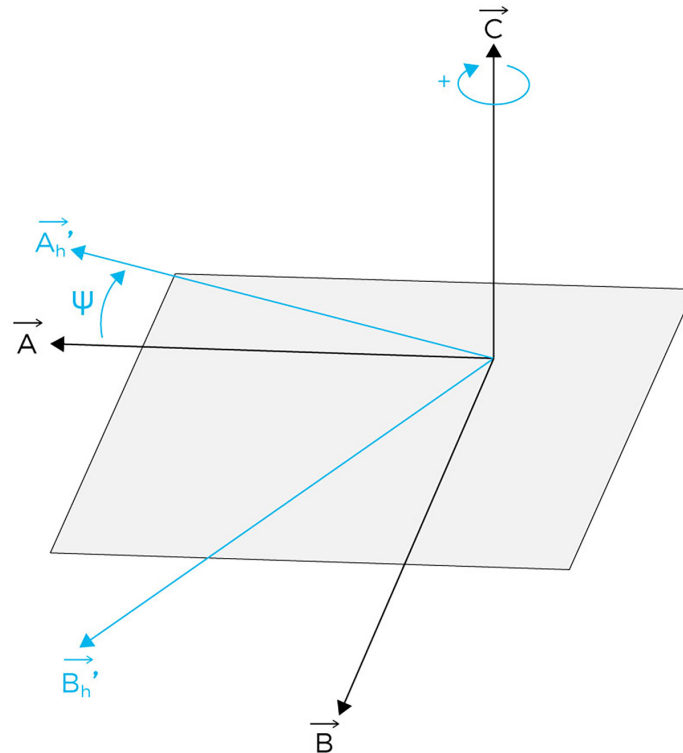

Figure 22 - Illustration of the first rotation around $\underline{C}$
1. Rotation of ($\underline{A}$, $\underline{B}$, $\underline{C}$) around the $\underline{C}$ axis, **angle Ψ** (see the Figure 22) to yield ($\underline{A_h'}$, $\underline{B_h'}$, $\underline{C}$).